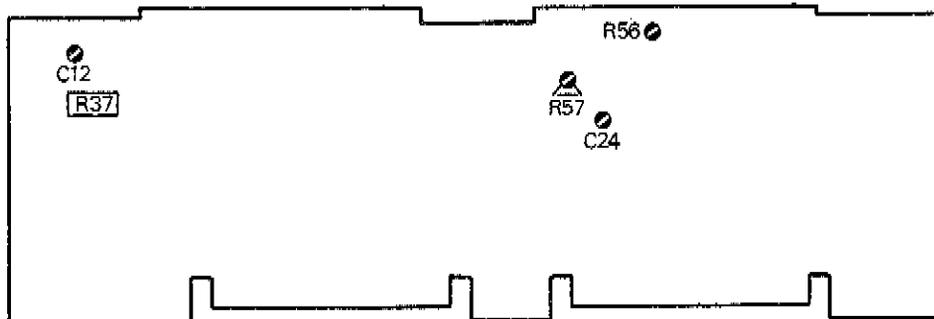

Figure 5-11 A31 Adjustment Locations
5. Select A31R37 according to the following table. (See Figure 5-11 for component location.)
5. Set the 3717A I/O SELECT to TELEPHONY and EMPHASIS to OFF. Adjust 3717A A31R57 for a reading of 0dB on the 3702B IF/BB LEVEL meter. (See Figure 5-11 for Adjustment Locations.)